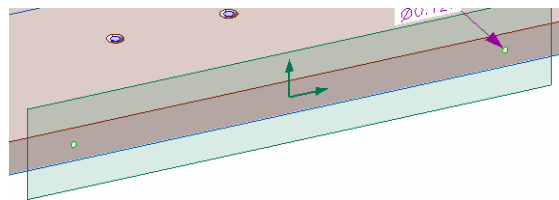

Figure 11. Mirrored hole
19. Select the previously drawn hole and use mirror and the axis line to create the hole at the left as in figure 11.